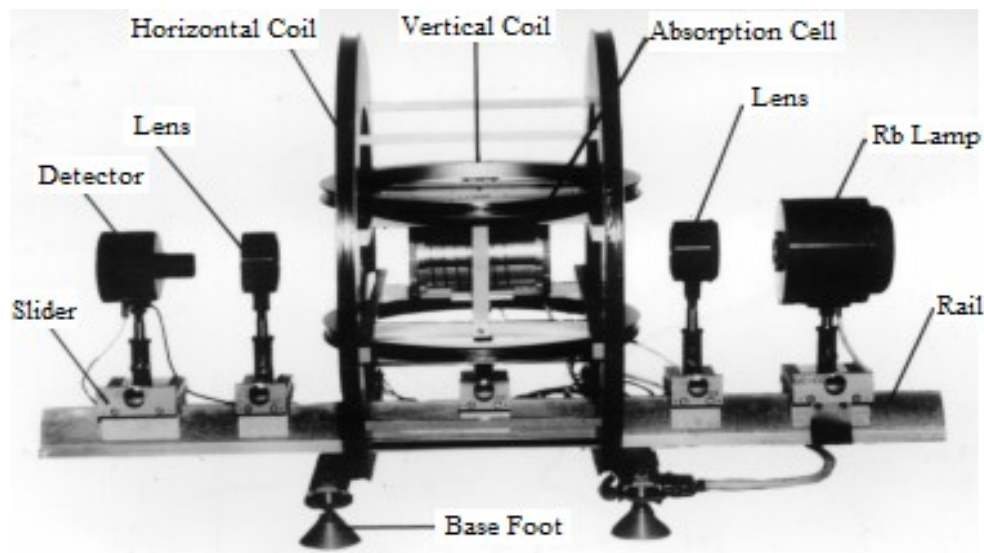

Figure 4 Configuration of components of main unit
To promote hands-on learning, the main unit of this apparatus is designed with an open structure as seen in Figure 4. Discrete components such as *Rb* spectral lamp, absorption cell, photodetector, and other optical components are placed on an optical rail that can be easily installed and aligned. All parts of the main unit are made of non-magnetic materials. A light-proof cloth cover is provided to cover the apparatus to minimize the impact of ambient light on the system. An observing window is located on the rear of the *Rb* lamp, through which light of rose purple color can be seen under working conditions.
- b. Place the absorption cell (GC4) with its slider in the central region of the two pairs of coils on the rail as per Figure 4.
- d. Place the *Rb* spectral lamp (GC2), collimating lens (including polarizer and $\lambda/4$ plate) (GC3), condenser (GC7), and photo detector (GC8) with corresponding sliders (marked with numbers) on the rail as per Figure 4. And, adjust them to be coaxial to the central axis of the absorption cell.
- d. There are three small sockets on the side of one support beam of the main unit, labeled as “A”, “B” and “C”, respectively. Insert the corresponding plugs of absorption cell (A), coils (B) and *Rb* lamp (C) according to the labels marked on the sides of these plugs. Connect the L6 connector on the main unit to the socket of the photo detector labeled with “Power”. **Warning: ensure correct connections!**